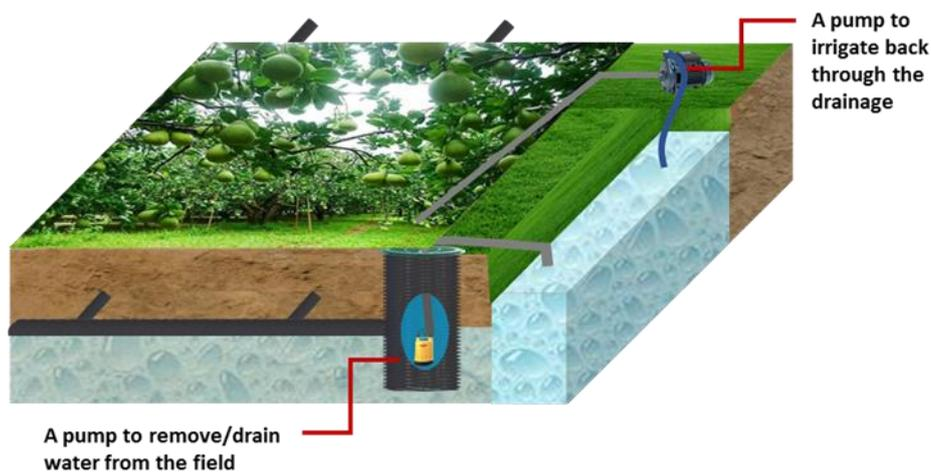

Figure 5. A schematic picture of using pumps to drain water from the field and irrigate back with the drained water.
**The water return flow pump** removes water from the source and moves it to the discharge point where it will be reused for irrigation (Figure 5)